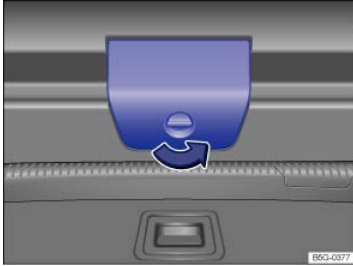

Fig. 72 Inside the luggage compartment: Cover for the trunk lid release.
- Unlock the cover by turning the knob in the direction of the arrow ⇒ Fig. 72. Pull the cover toward you to open.